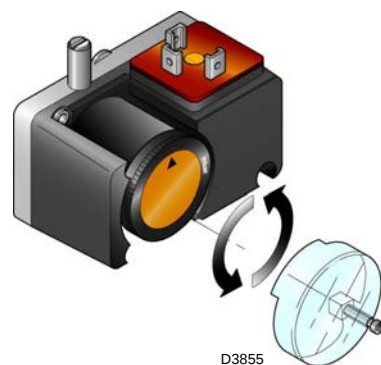

Fig. 42
- Adjust the minimum gas pressure switch (Fig. 42) to the start of the scale.
Adjust the minimum gas pressure switch after performing all the other burner adjustments with the pressure switch set to the start of the scale (Fig. 42).